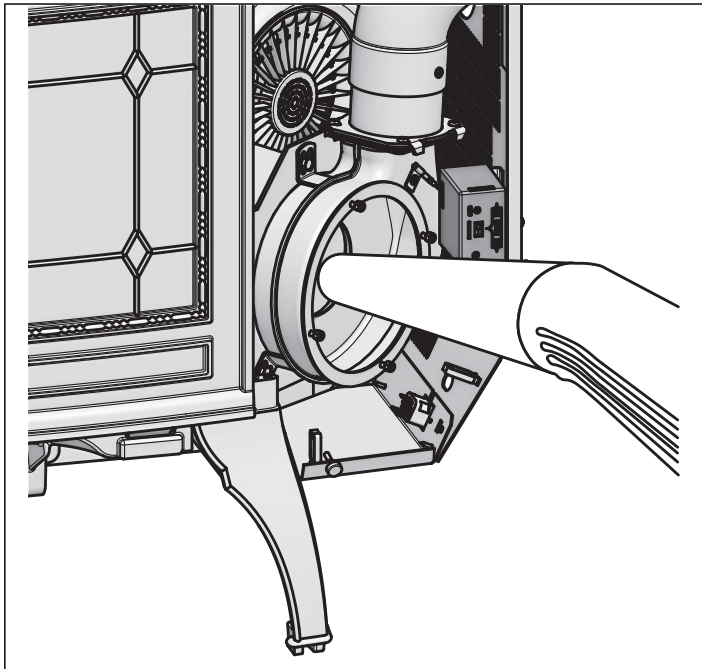

Figure 20.1
- d. Vacuum out exhaust path and housing. Figure 20.1